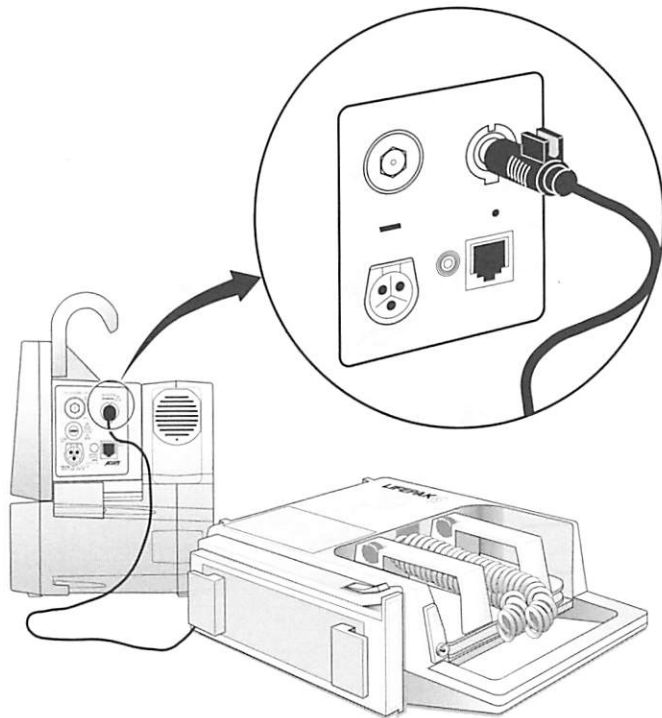

Figure 6-6. The Defib Sync interface cable
- 3 Connect the cable end to the Propaq's DEFIB SYNC connector on the right side panel (Figure 6-6 on page 6-12).